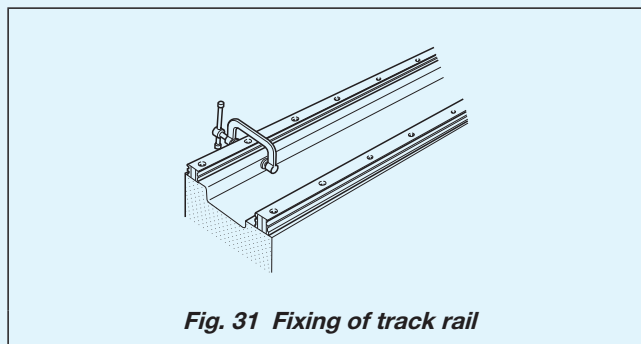

Fig. 31 Fixing of track rail
- Use small type vise or the like to stick track rail reference mounting surface to the reference mounting surface of the bed and tighten the fixing bolt at the same position. Repeat this method from one end to fix the track rail in order. (See Fig. 31)